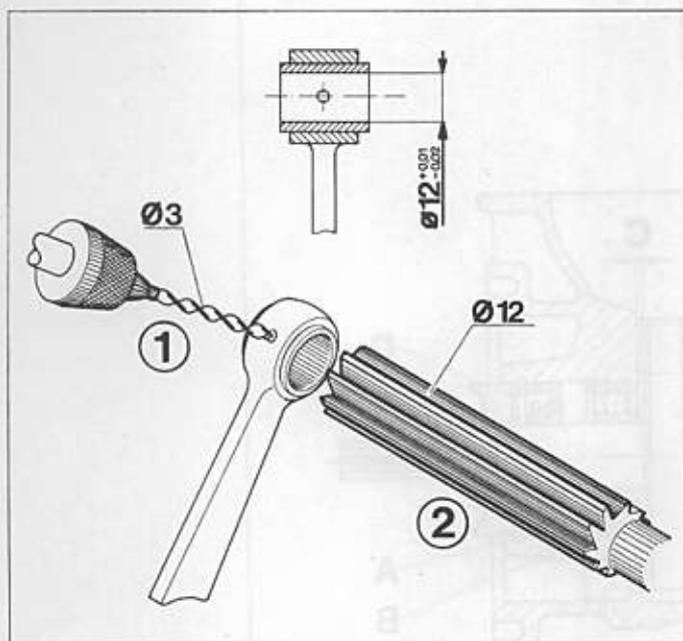

Fig. 32
- the newly installed bush is machined under the process shown in Fig. 32;